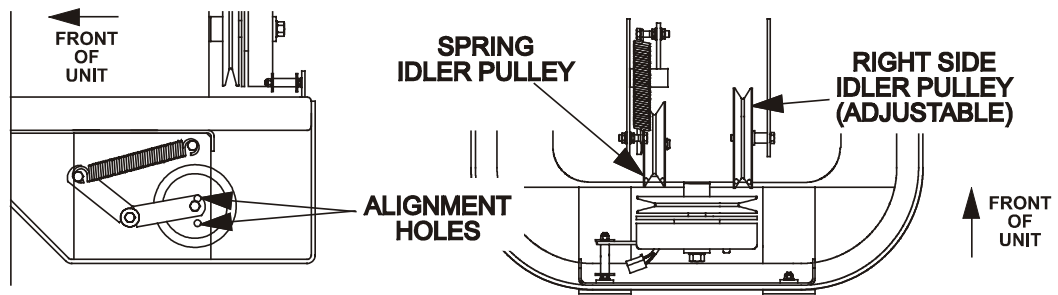

FIGURE 9
- b) Check to make sure the center of the bolt head in the center of the spring loaded pulley, on left side engine deck support, is positioned between the centers of the two alignment holes in the left support plate (See Figure 9). It is necessary to adjust the belt tension when the center of the bolt head is at or below the center of the bottom alignment hole.